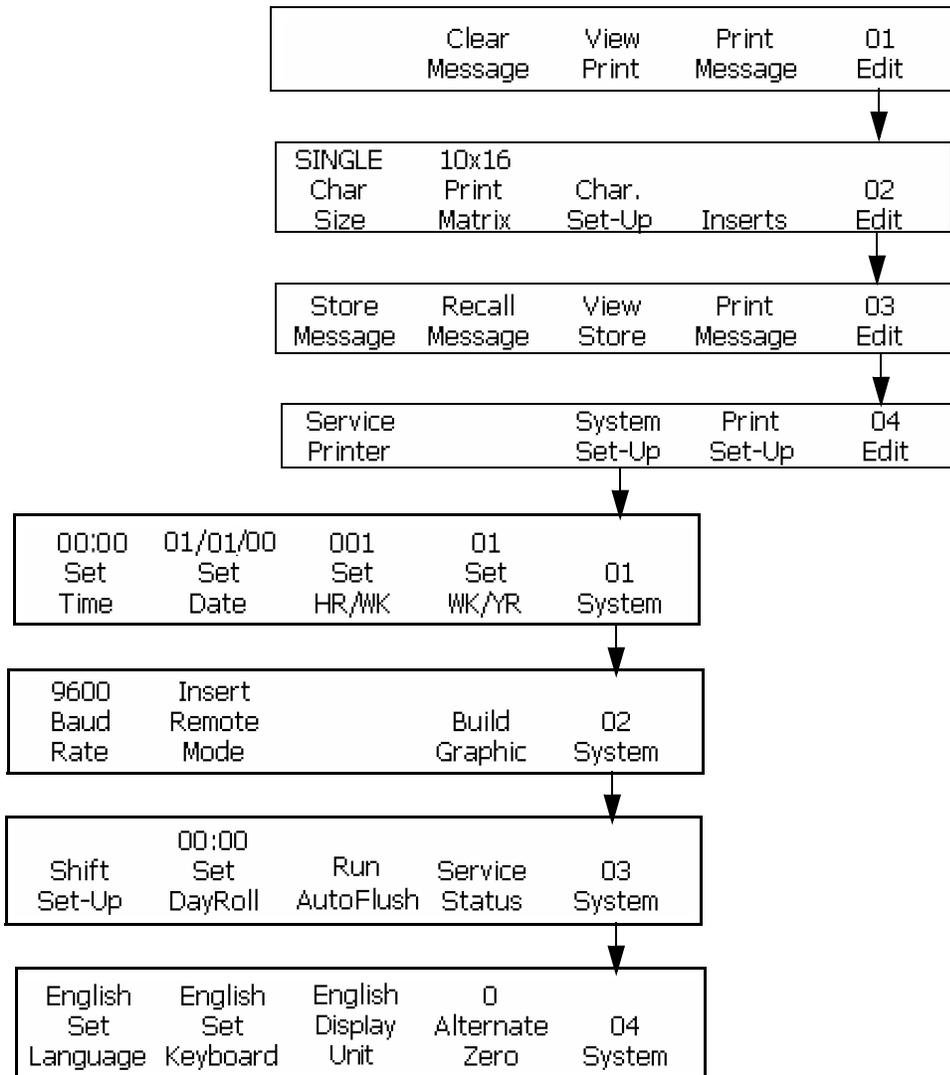

Figure 7-22: Access Frame <04 System> to Set Language
- 1 Begin with the Frame <04 System>. Refer to Figure 7-22.